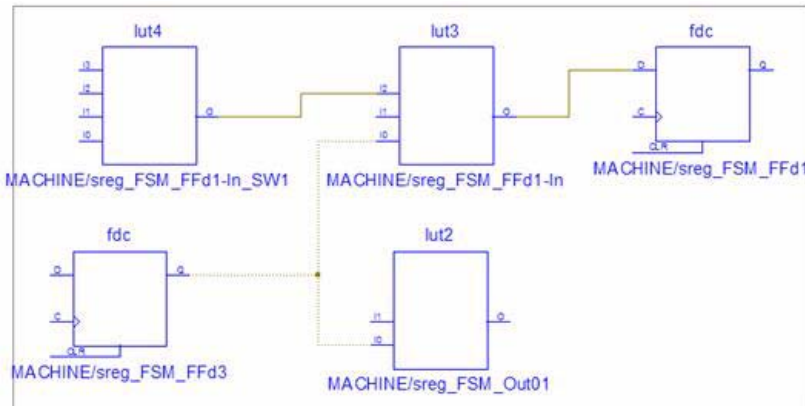

Figure 4-18: **A Previous View**
1. Push the back button several times to get the following view, shown in Figure 4-18.